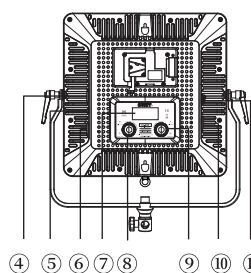

Fig.6 CL-60D
This product support battery and adaptor power supply, switch on the light (Fig.6 ⑩), set the require light parameter by brightness adjusting knob (Fig.6 ⑧), color temperature adjusting knob (Fig.6 ⑨), then use normally.
This product support two color temperature and brightness adjusting mode: General adjusting mode, Fast adjusting mode. Press brightness/color temperature adjusting knob (Fig.6 ⑧/⑨) to change the adjusting mode the user can set the brightness/color temperature quickly by combining the two adjustment modes according to the usage demand.
Long pressing the brightness adjusting button (Fig.6 ⑧) about 2s to enter in communication address setting interface, communication address range: 001-512.
LCD digital tube field (Fig.8 ④) flashing indicates that the current bit is selected, rotate the brightness adjustment knob (Fig.6 ⑧) to set the current bit, press the brightness adjustment knob (Fig.6 ⑧) to determine the setting of the current bit and go to the next bit, when the setting of the last bit is completed, press the brightness adjustment knob (Fig.6 ⑧) or wait for about 5 s, to exit the setting of the communication address.
Through the DMX line of the lamp network, long press color temperature adjustment knob (Fig.6 ⑨) about 2 s, to complete the lamp communication control mode setting.